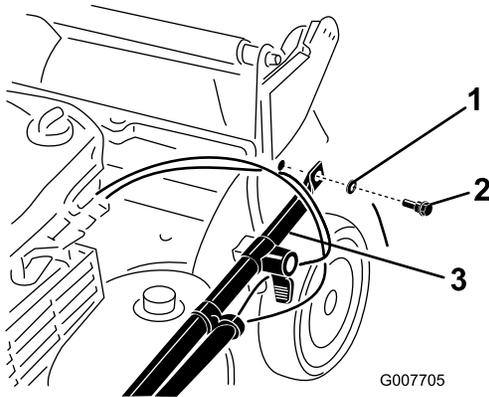

Figure 4
- Attach the handle ends to the mower housing with 2 washers and 2 handle bolts (Figure 4), **but do not tighten the handle bolts.**
Important: Route the cables to the *outside* of the handle (Figure 4).